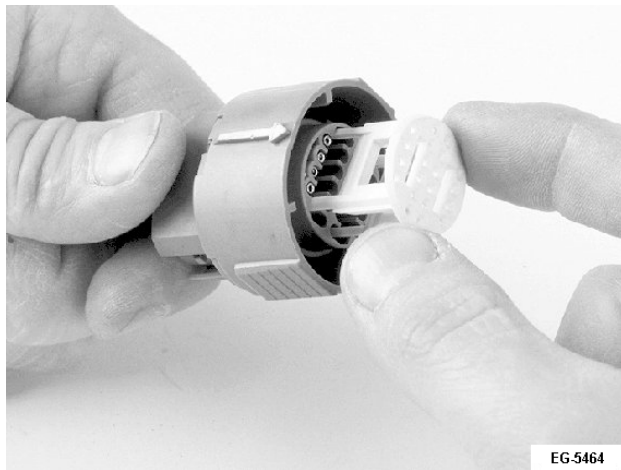

Figure 281 Install Terminal Lock
2. Insert the locking wedge into the connector body and push in until seated in the connector (See Figure 281, page 447)